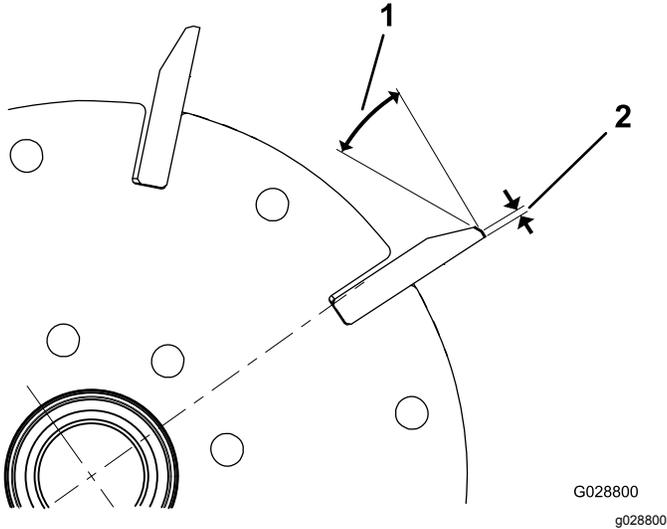

Figure 64
1. Apply a 30° relief grind on all reel blades until the land width is 1.3 mm (0.050 inch) wide (Figure 64).